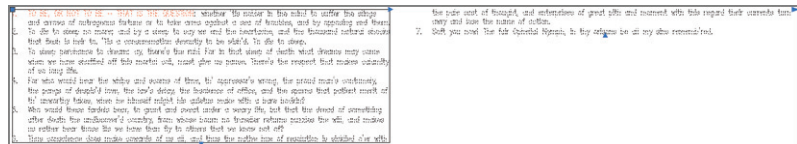

FIGURE 10.16 Moving the bottom grip up to create two columns
2. Click once on the numbered Hamlet text to select it and reveal its grips. Click the Column Height (bottom) grip, move it upward, and click again, automatically creating two columns, as shown in Figure 10.16.